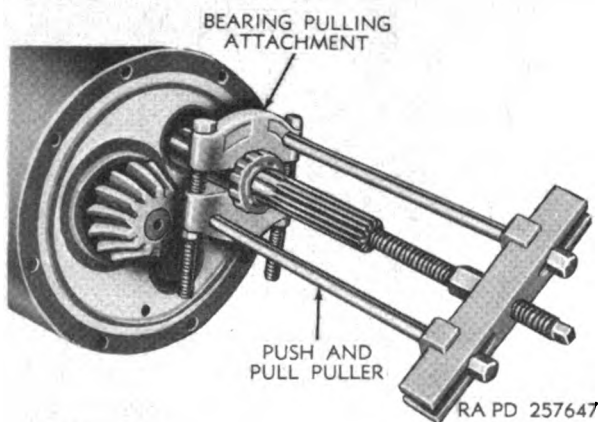

Figure 177. Pulling bearing.
(4) *Pulling bearing.* In figure 177 a roller bearing assembly is being removed from a transmission shaft assembly with a combination of the bearing pulling attachment and the push and pull puller.